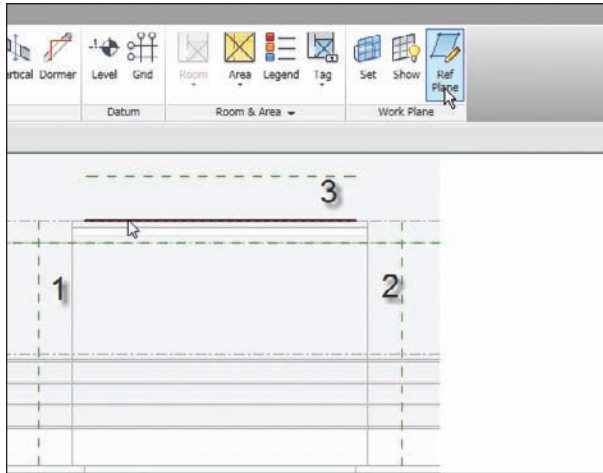

FIGURE 7.51 Adding reference planes to use as construction lines
5. In the Home tab, select Reference Plane as shown in Figure 7.51, then click the Pick Lines button.
6. Offset a reference plane 3'-0" to the left and to the right of the exterior walls, as shown by numbers 1 and 2 in Figure 7.51.
7. Offset a reference plane 4'-0" up from the top of the wall, as shown by number 3 in Figure 7.51.